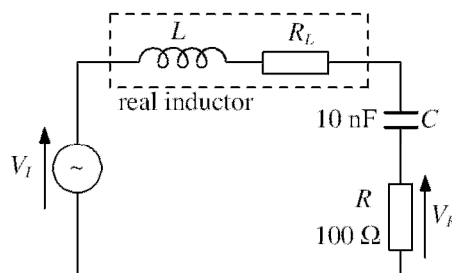

Figure 2a
2. a. In the resonant circuit of figure 2a it is known that  $C$  and  $R$  are ideal but that  $L$  has a series resistance  $R_L$  as shown. In an experiment to assess the circuit it is observed that the resonant frequency  $f_r$  is 10 kHz and that at resonance  $V_I = 1$  V and  $V_R = 0.8$  V. Use these observations to calculate values for  $L$  and  $R_L$ .